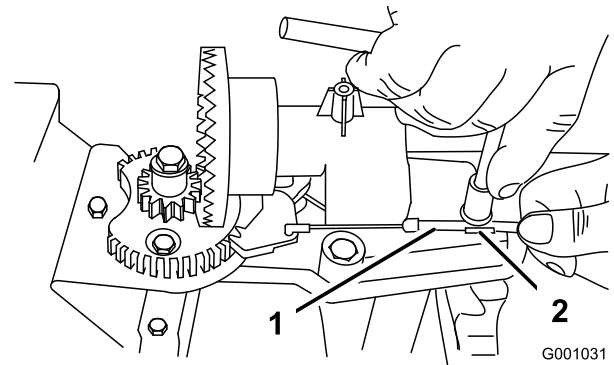
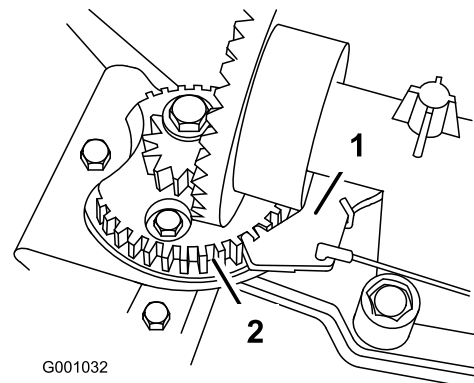

Figure 58
Figure 59
- Loosen the bolt on the cable clamp (Figure 58).
- Grasp the cable conduit and move it toward the front of the machine until the discharge chute latch fully engages the gear teeth (Figure 58 and Figure 59).
Note: The latch is spring loaded and will naturally move into the teeth of the gear (Figure 59).